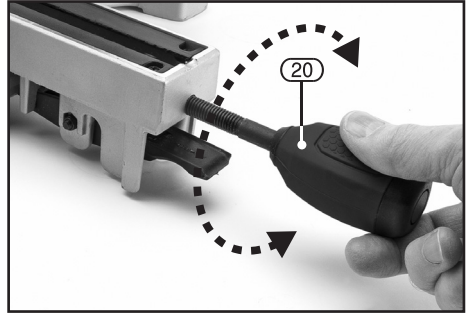

FIG.5
- Using the 4 workbench mounting points located in the base (21) and 4 suitable bolts (not supplied), secure the saw to the workbench.
8.7 MITRE HANDLE – FIG.5
- Attach the mitre handle (20) by screwing it into position. When tight, this handle stops the table from rotating.